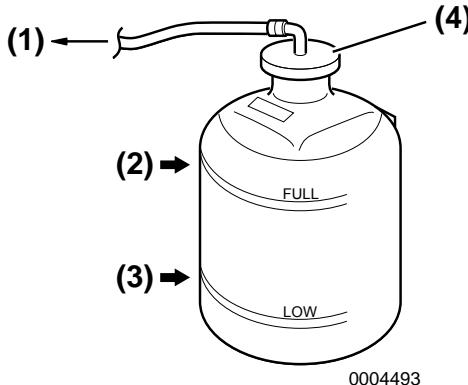

Figure 20
Check the coolant level in the coolant recovery tank. The level should be at the FULL mark (**Figure 20, (2)**). Add coolant if necessary. **NOTICE: NEVER pour cold coolant into a hot engine.**
6. Remove coolant recovery tank cap (**Figure 20, (4)**) to add coolant if necessary. Do not add water.